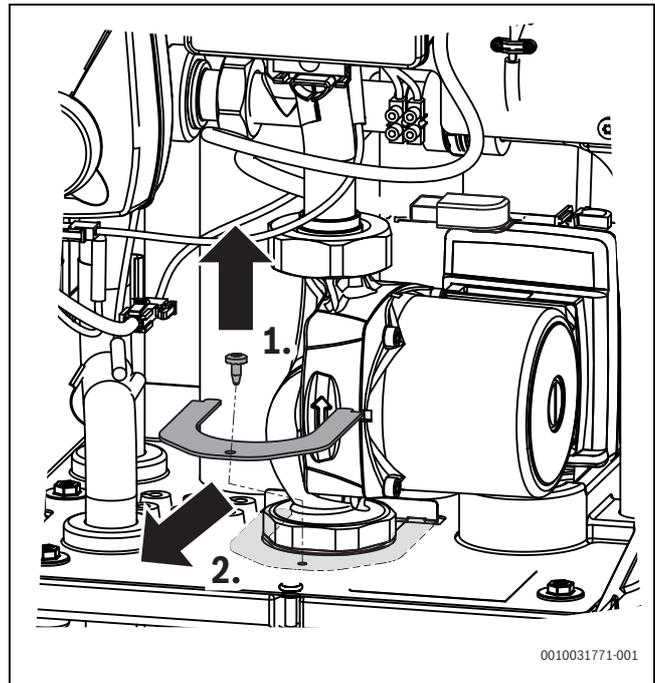

Fig. 38 Remove locking plate
- ▶ Remove the lock screw and pull the locking plate forwards and out (→Fig. 38).